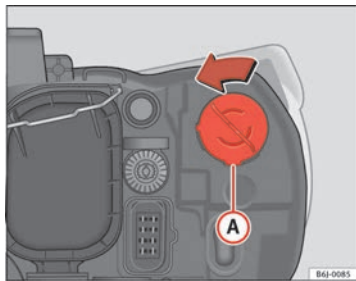

Fig. 148 Turn signal
- Rotate the bulb holder ⇒ fig. 148 (A) to the left and pull.